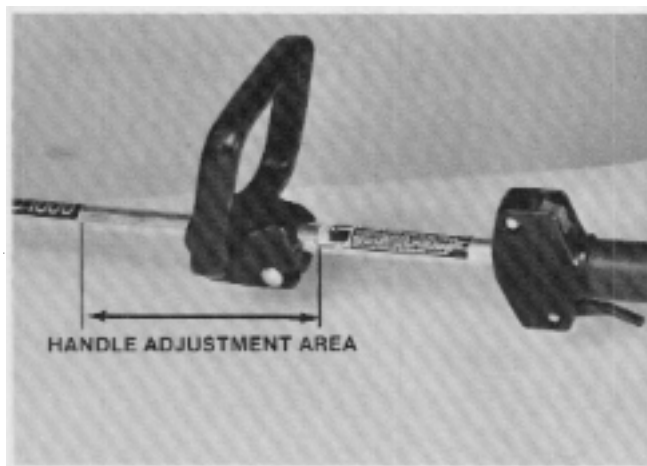

Figure 102
2. Adjust to the desired handle height but do not cover the eye protection safety decal. See Fig. 102